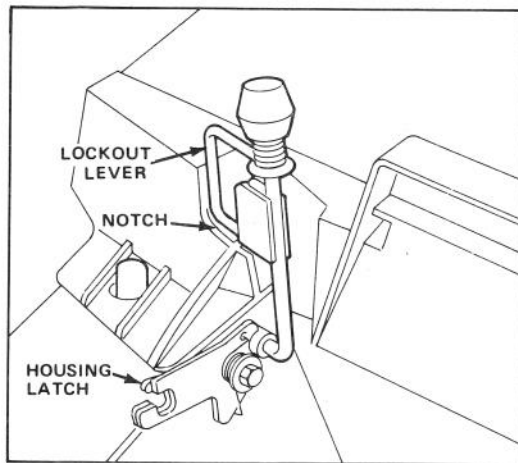

Figure 9
4. Squeeze lockout lever until it clears the housing latch. Then move handle rearward until it locks in notch at rear of bag latch (Fig. 9). The chute door in mower housing is now open and mower is ready to bag grass.